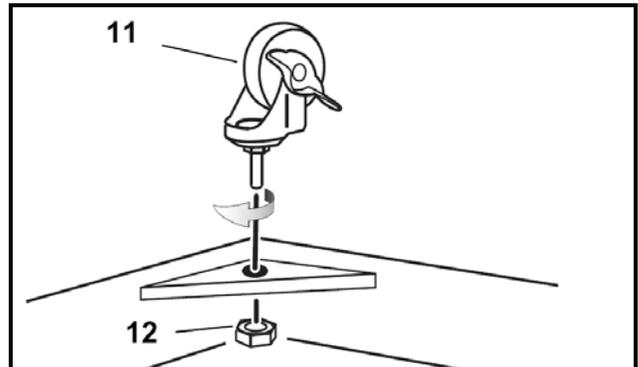

Figure-4 Installing the castors
Screw one castor (11) to each corner of the bottom panel and secure them using hex nuts (12) provided. See figure-4.